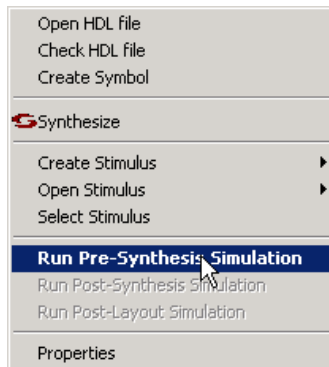

Figure 3-20. Run Pre-Synthesis Simulation
4. Double-click the **ModelSim** simulation icon in the **Process** window, or right-click counter in the **Design Hierarchy** tab and select **Run Pre-synthesis Simulation**, as shown in Figure 3-20.